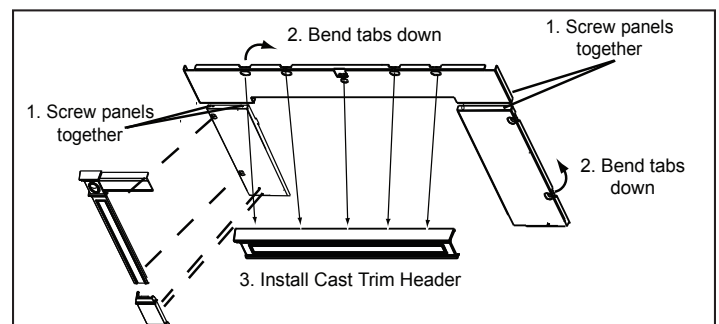

Figure 19.4
4. Now bend the tabs down toward the backside of the panel set, 5 on top and 2 on each leg. Leave the panel set face down. **Figure 19.4**